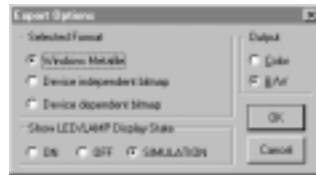

Figure 7.2. The Export Options dialog lets you specify output settings.
- 1 Choose **File > Export > Options** to display the dialog box shown in Figure 7.2.